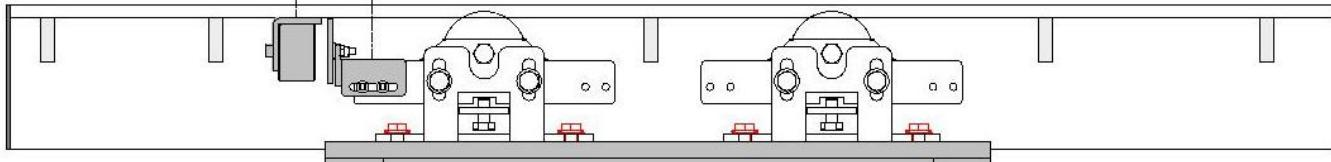
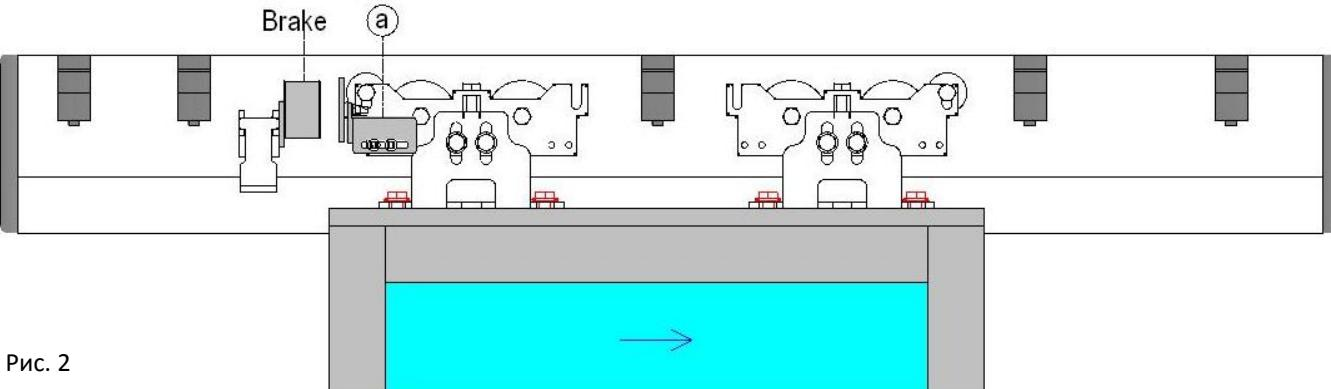

Рис. 1
Рис. 2
1. Fix the 818XC-0034 safety braking device on the aluminum profile of FLUO-SLL automation, and the encounter bracket (a) on the carriage, as show in figure 1; or fix the 818XC-0036 safety braking device on the closing mechanical stopper of FLUO-SLB, FLUO-SLS, FLUO-SLT automations, and the encounter bracket (a) on the carriage, as show in figure 2.